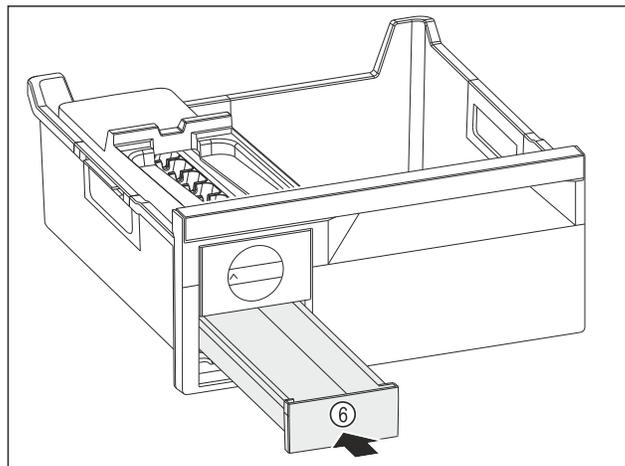

Fig. 159
- ▶ Insert the ice cube tray *Fig. 159 (6)*.